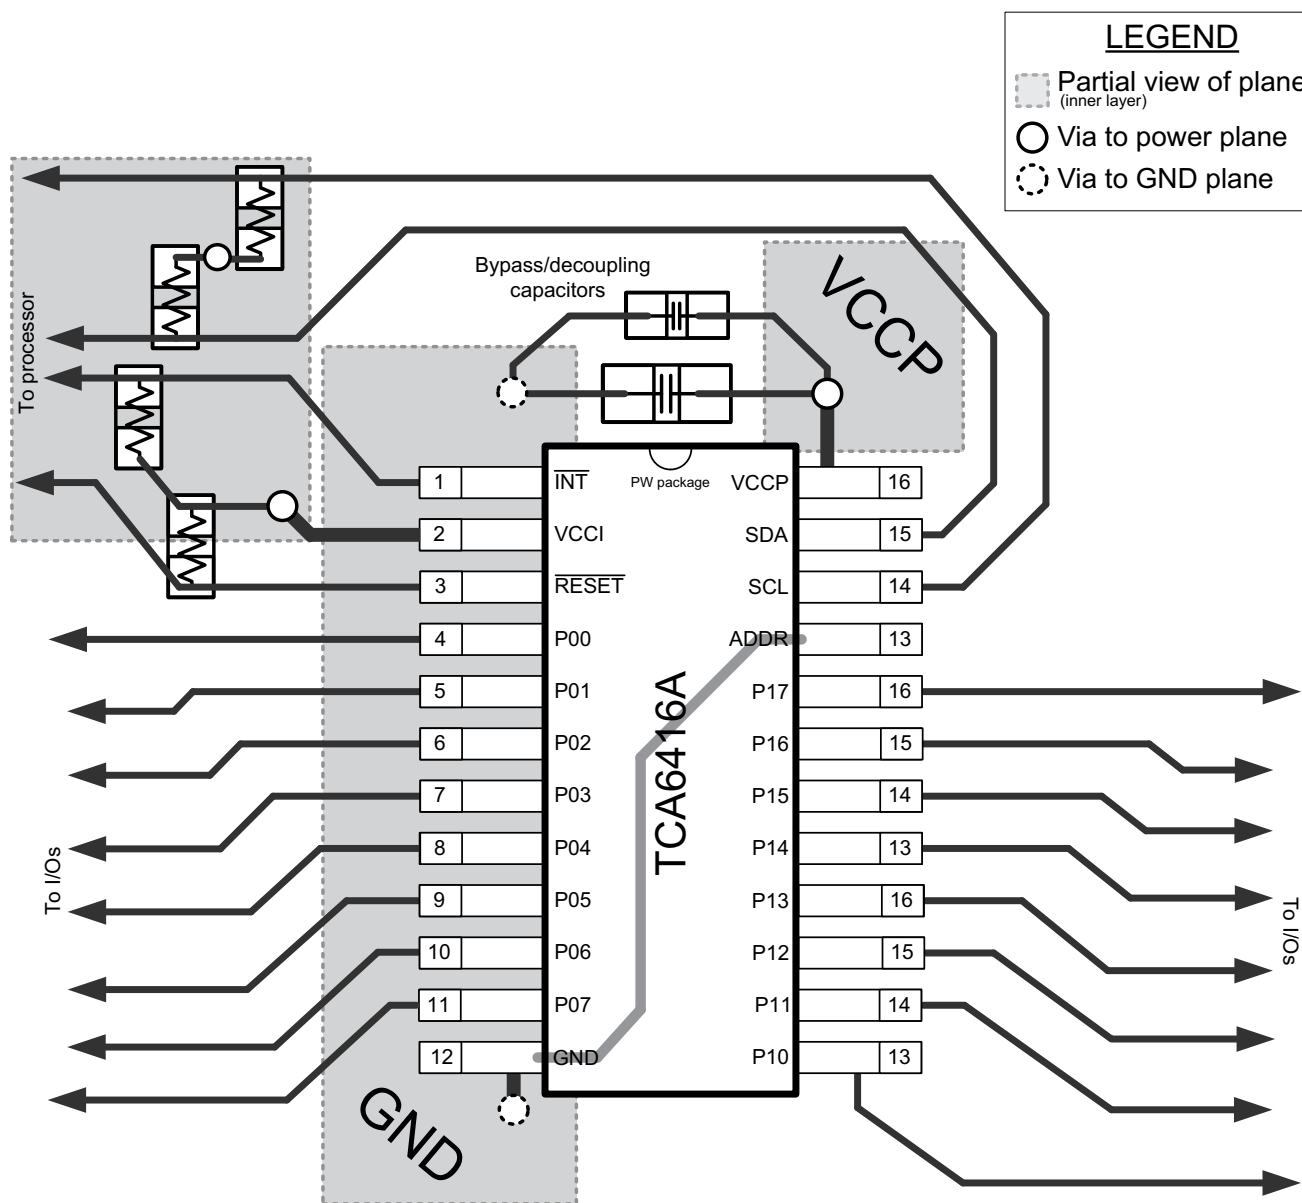

Figure 11-1. TCA6416A Layout
In all PCB layouts, it is a best practice to avoid right angles in signal traces, to fan out signal traces away from each other upon leaving the vicinity of an integrated circuit (IC), and to use thicker trace widths to carry higher amounts of current that commonly pass through power and ground traces. By-pass and de-coupling capacitors are commonly used to control the voltage on the VCCP pin, using a larger capacitor to provide additional power in the event of a short power supply glitch and a smaller capacitor to filter out high-frequency ripple. These capacitors should be placed as close to the TCA6416A as possible. These best practices are shown in Figure 11-1.
For the layout example provided in Figure 11-1, it would be possible to fabricate a PCB with only 2 layers by using the top layer for signal routing and the bottom layer as a split plane for power (VCCI and VCCP) and ground (GND). However, a 4 layer board is preferable for boards with higher density signal routing. On a 4 layer PCB, it is common to route signals on the top and bottom layer, dedicate one internal layer to a ground plane, and dedicate the other internal layer to a power plane. In a board layout using planes or split planes for power and ground, vias are placed directly next to the surface mount component pad which needs to attach to VCCI, VCCP, or GND and the via is connected electrically to the internal layer or the other side of the board. Vias are also used when a signal trace needs to be routed to the opposite side of the board, but this technique is not demonstrated in Figure 11-1.